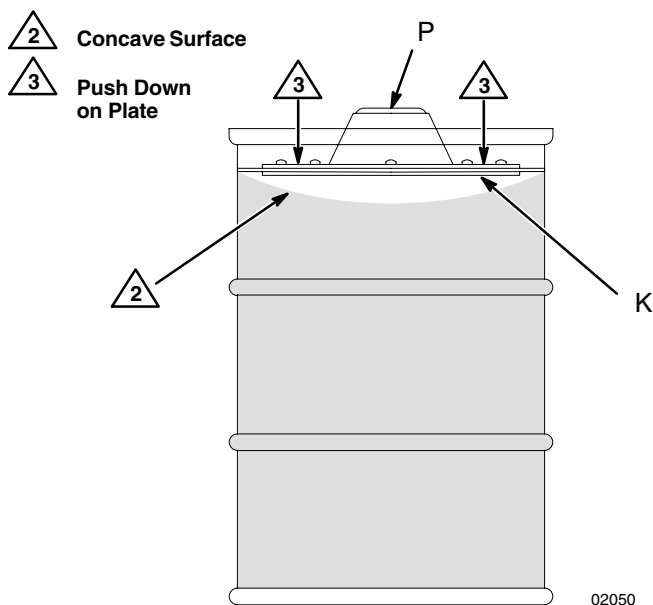

Fig. 4
2. If using a follow plate (K), remove the fluid container cover. To prevent air from being trapped under the follow plate, scoop grease from the center of the container to the sides, to make the surface concave. Place the follow plate on the grease and push down on the plate until grease appears at the center opening (P). See Fig 4.